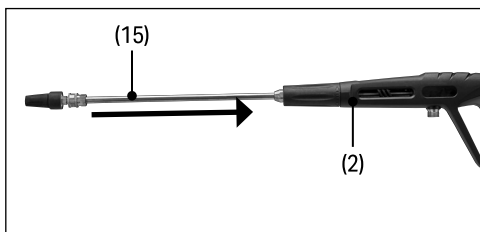

Fig. 9
6.5 Fitting the Hose and Lance (Fig 7 – Fig.9)
- Connect the end of the hose (13) to the trigger assembly (2) and screw on securely.